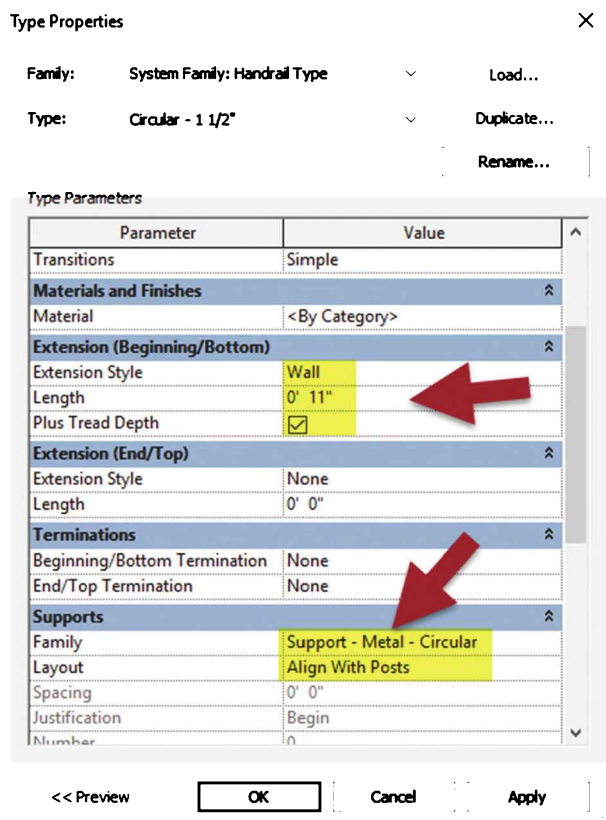

FIGURE 7-8.23 Editing Handrail properties
40. Make the following changes (Figure 7-8.23):